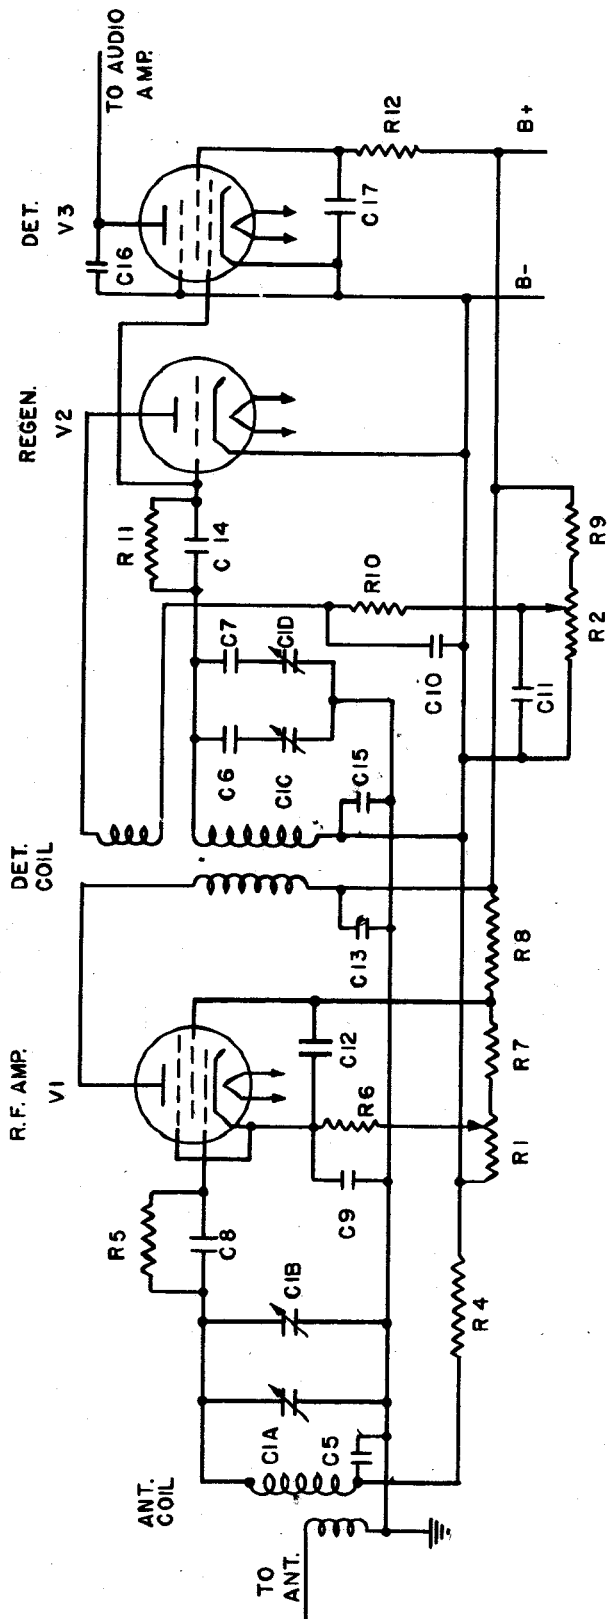

Figure 5—Radio Receiver 128-AY, Simplified Schematic Diagram of RF Section for Bands A and B.
(2) The antenna trimmer (C2) is mounted on the panel and provides a means of adjusting the antenna tuned circuit for maximum output over the entire frequency range of the receiver.
(3) The lightning arrester (LA) is a neon lamp which is connected across the antenna input circuit. If the antenna input voltage rises above approximately 60 volts, the neon lamp ignites and becomes a very low resistance. However, on ordinary radio signal voltages, the arrester presents negligible loading on the input circuit. In this way, the antenna coils are protected from lightning and also from high voltages induced in the antenna by local high-powered transmitters.
(4) The two ganged band switches, (S2) and (S3), connect the proper coils into the circuit and also make the necessary circuit changes for each band. For the purpose of explanation, assume that the band switches are on Band A. The circuit arrangement for Bands A and B are the same. A simplified schematic diagram of the r-f section for these two bands is shown in figure 5. Two sections of the tuning capacitor (C1A) and (C1B) are connected in parallel to form the capacitive portion of the antenna tuned circuit.